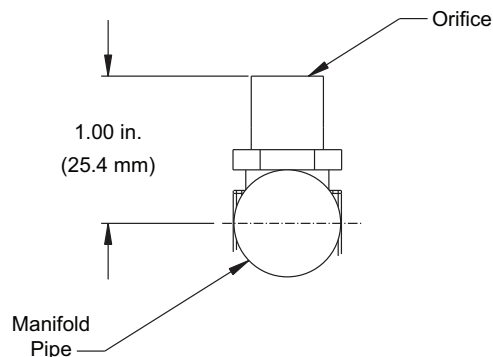

Fig. 57 — Orifice Projection
Refer to Fig. 57 for maximum projection dimension for orifice face to manifold tube.
5. If factory orifice has been removed, check that each orifice is tight at its threads into the manifold pipe and that orifice projection does not exceed maximum value. See Fig. 57.
Ensure each replacement orifice is tight as its threads into the manifold pipe and the orifice projection does not exceed maximum value. See Fig. 57.